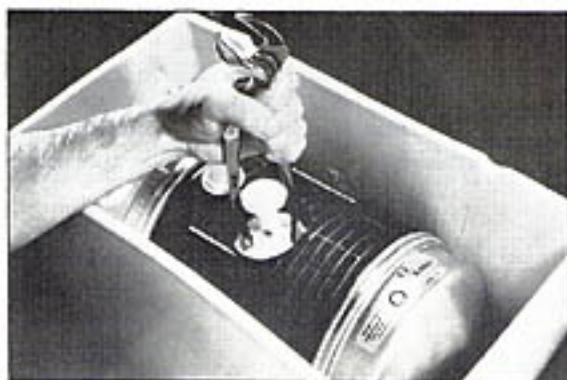

fig. 2
5. Check the flush cartridge for proper installation (*fig. 2*):